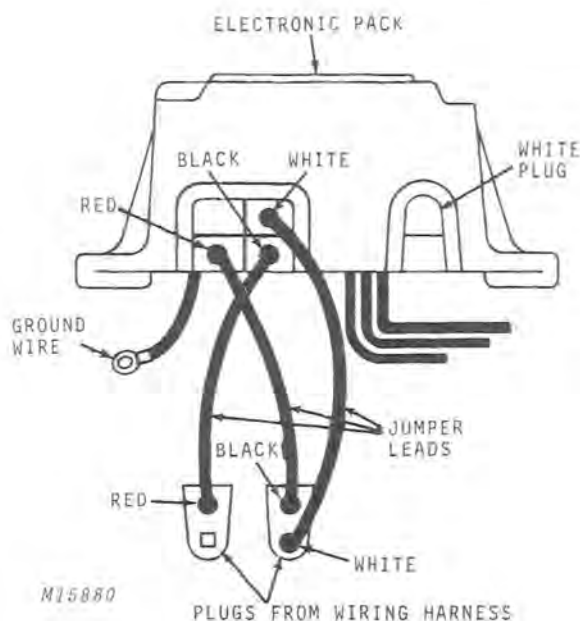

Fig. 6-Jumper Lead Connections
3. Connect the first jumper lead from the white wire of the wiring harness plug to the white connector of the electronic pack, Fig. 6.
4. Connect the second jumper lead from the black wire of the wiring harness plug to the red connector of the electronic pack, Fig. 6.
5. Connect the third jumper lead from the red wire of the wiring harness plug to the black connector of the electronic pack, Fig. 6.